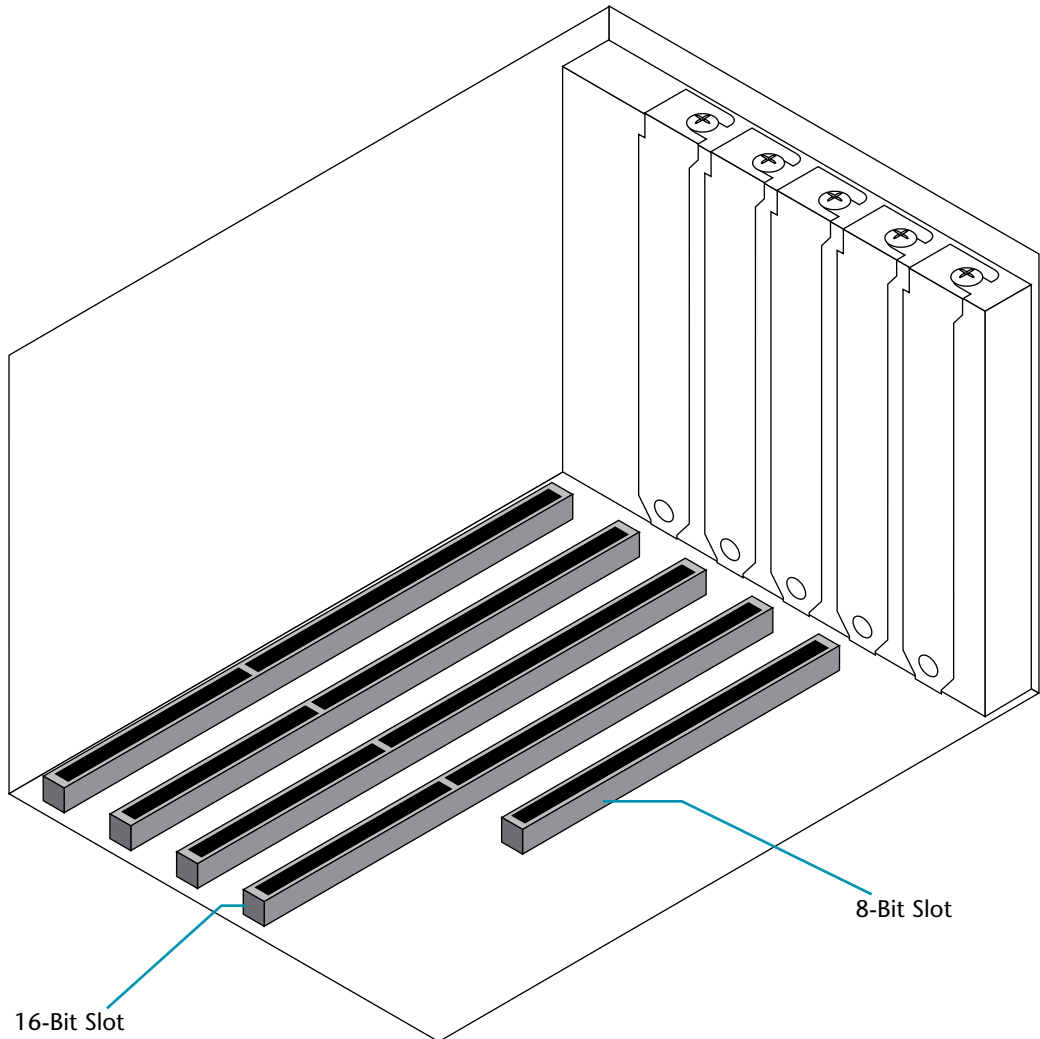

Figure 2-2. Locating a 16-bit expansion slot
4. Locate a free 16-bit expansion slot inside your computer. A 16-bit slot has two connectors, one slightly shorter than the other (see figure 2-2), as opposed to the 8-bit slot, which has only one connector.